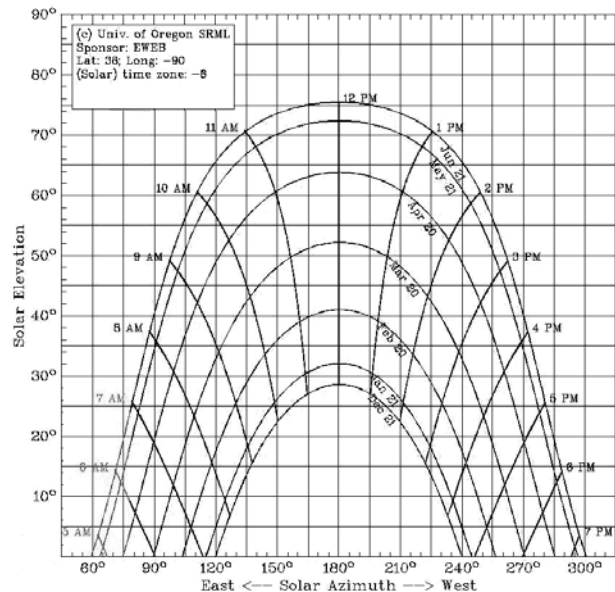
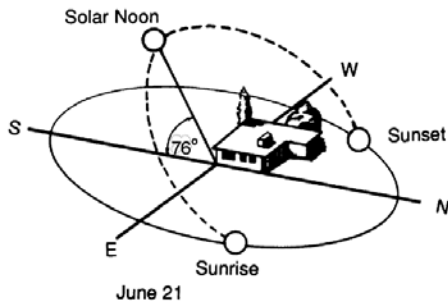

Figure 1. A sunchart for 38 degrees north latitude. University of Oregon SRML SunChart Program <http://solardat.uoregon.edu/SunChartProgram.html>
Figure 2. Angle of summer sun is 76 degrees from horizontal at solar noon for 38 degree north latitude.
2. A 9.5-inch stick at the end of a yardstick forms a 15-degree angle to your eye when the other end of the stick is held at your forehead. This can be used to plot the approximate southern skyline on a sunchart (Figure 1) using elevation and azimuth angles from the direction of true south and true level as observed from the center and bottom of the solar aperture.
1. The midday sun is low in the southern sky during winter months and high in the southern sky during summer months (Figures 2 and 3). Plot the southern horizon, trees, and buildings on a sunchart (Figure 1) to determine sunlight availability.